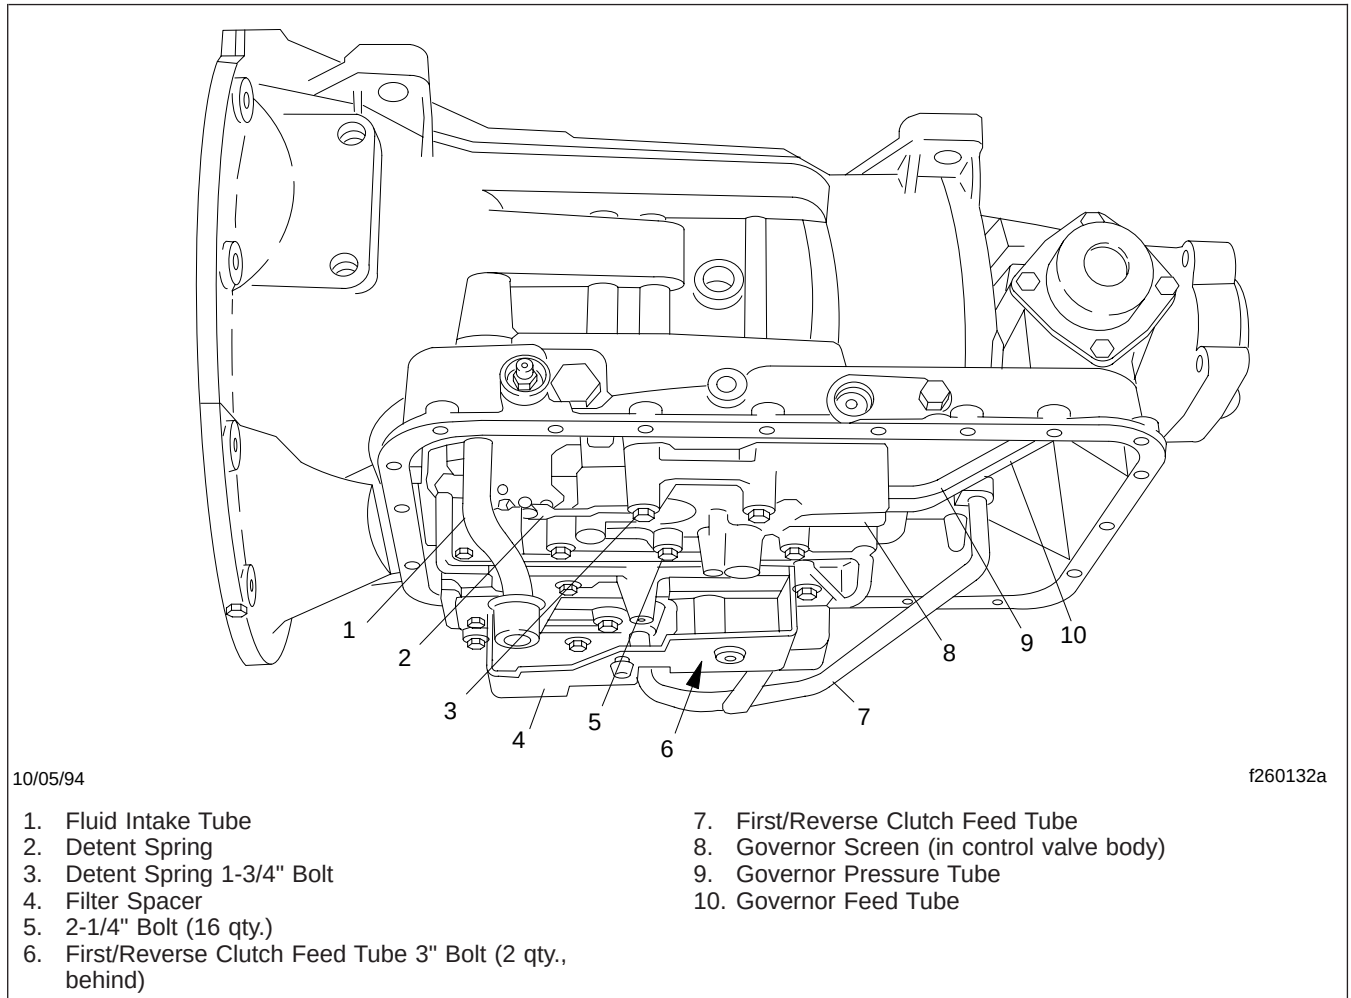

Fig. 6, Allison AT Series Transmission Governor
7. Remove, clean, and install the governor feed line screen, located in the control valve body. See Fig. 6.